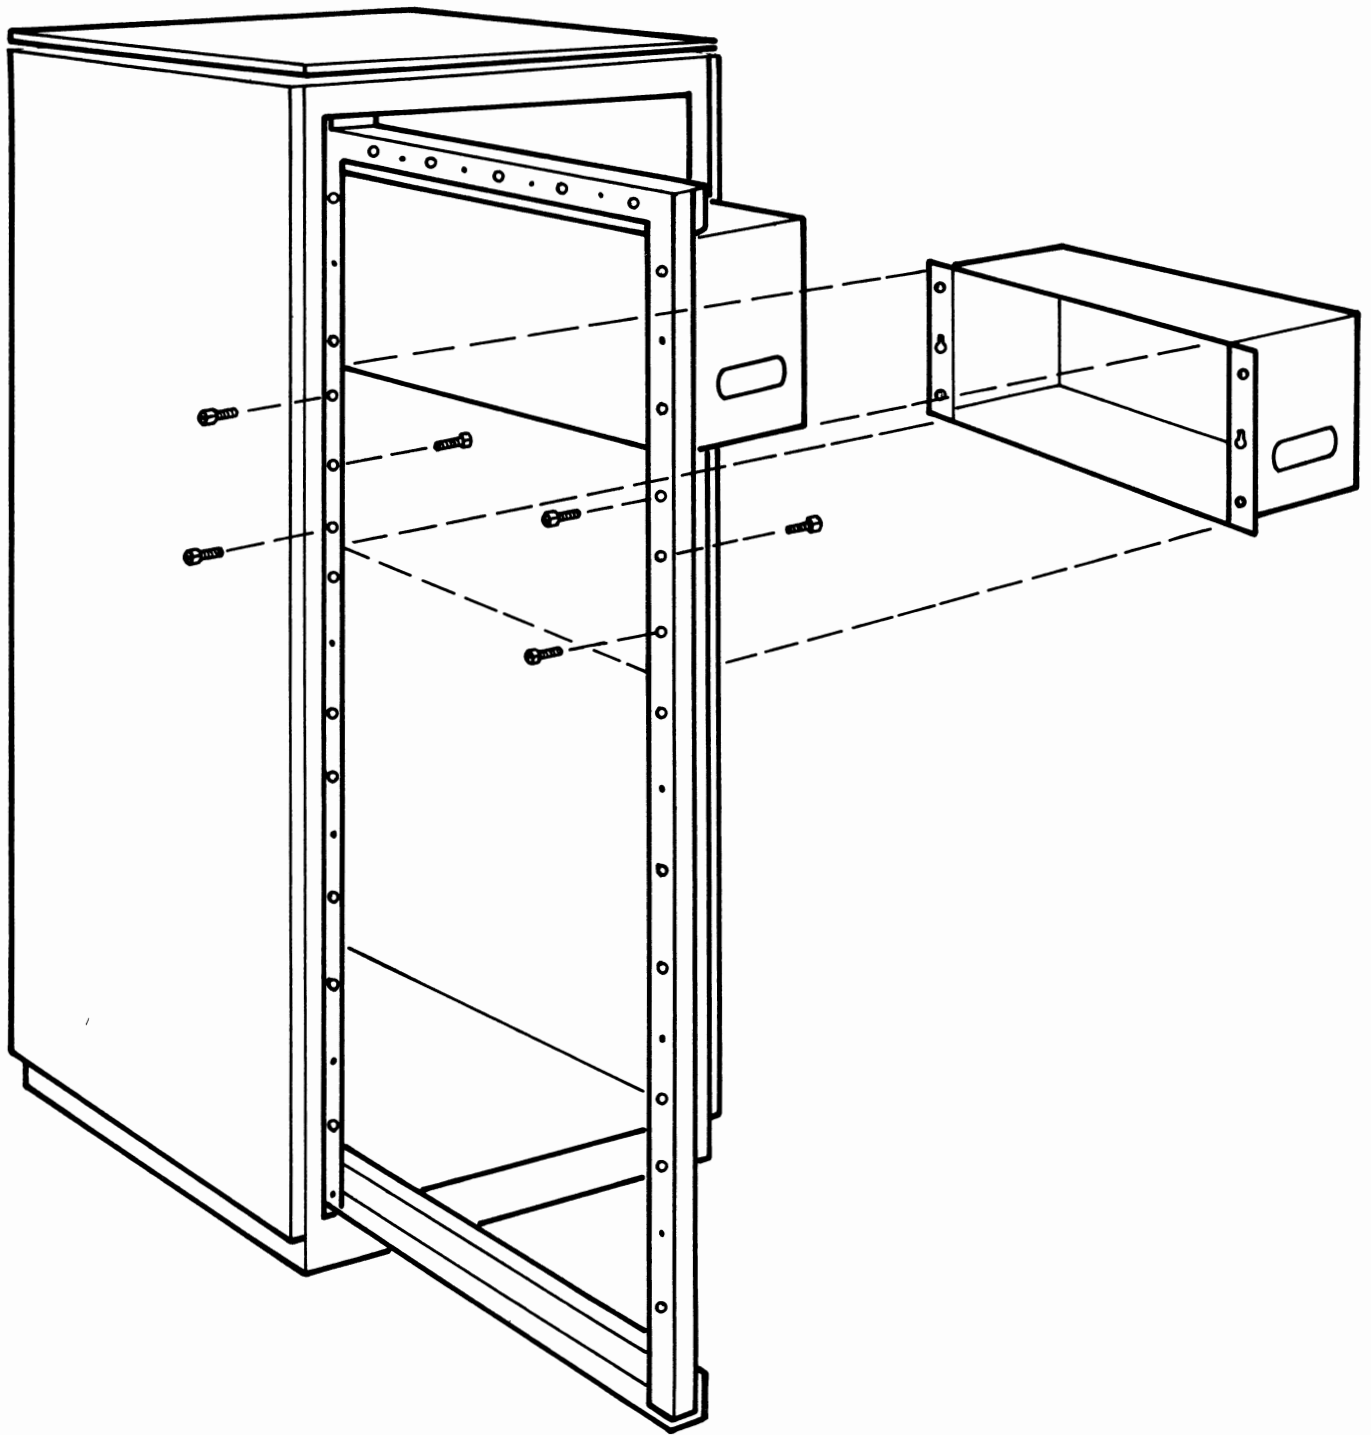

Fig. 6 – Installation of Shelf
- 3.22 The shelves are fastened in the slides with six self-tapping screws (Fig. 6). Detailed instructions for the installation and removal of shelves and subshelves are given in Section 553-5011-202.